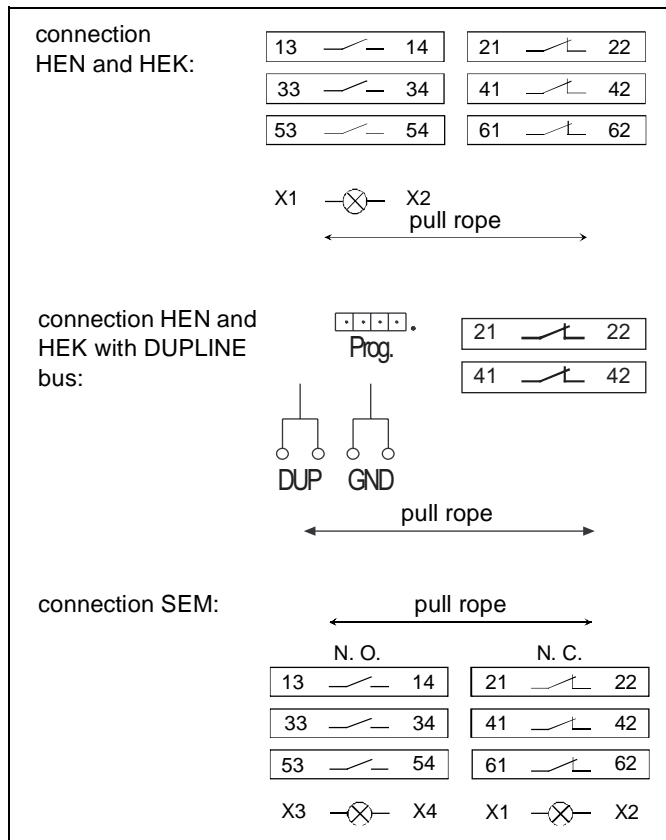

Fig. 5-9: Connecting types HEN, HEK, and SEM
1. Open the cover (12) of the pull rope switch by loosening the two resp. four screws (11) (s. fig. 5-9).
2. Loosen the nut of the cable fitting (17) and guide the connection cable through.
1. Connect the wires according to the wiring diagram inside the cover (12) (s. fig. 5-9).